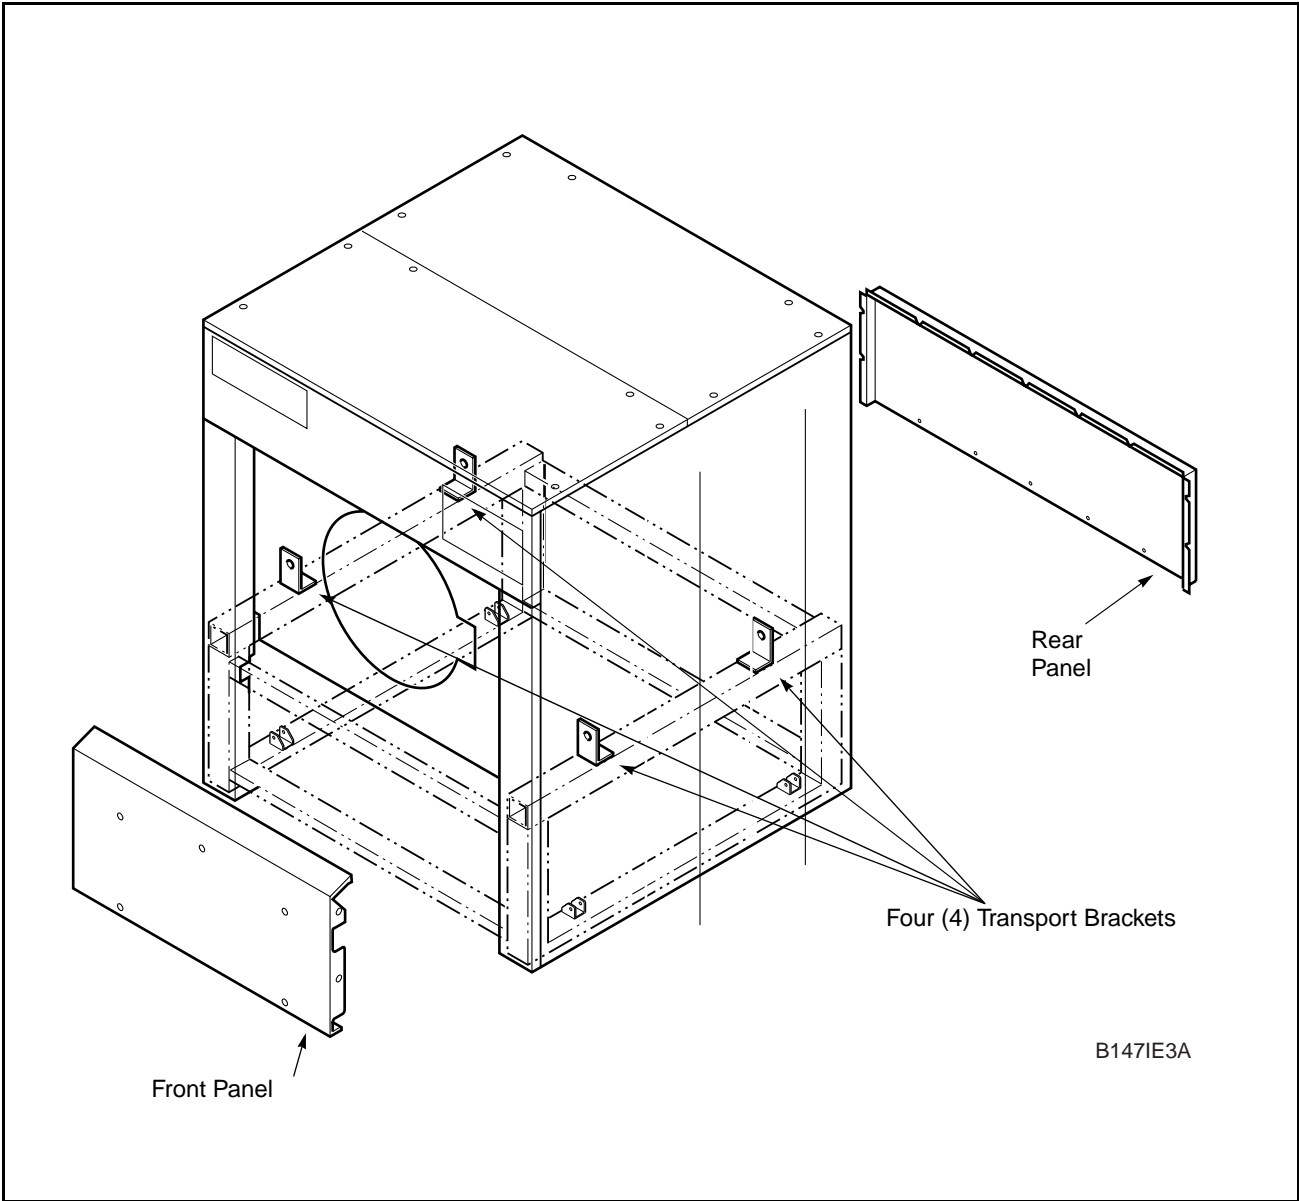

Figure 12
9. Remove the four red transport brackets used to secure the machine during shipping. See Figure 12.